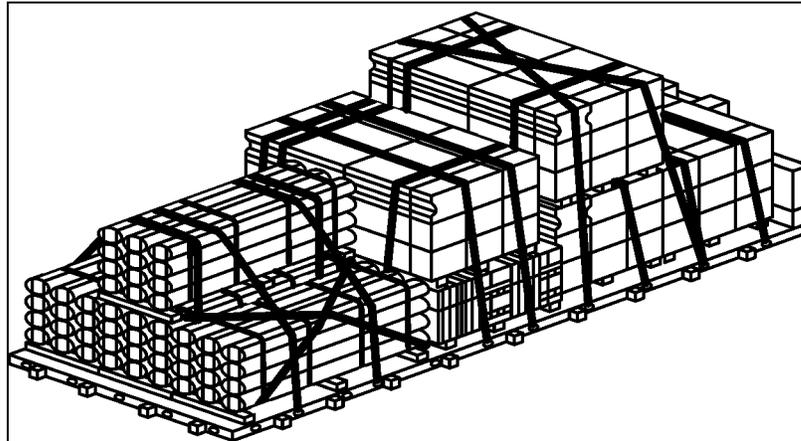

Figure 3-57. Tiedown on Flatrack
5. Secure ammunition to PLS flatrack using web straps (see Figure 3-57).